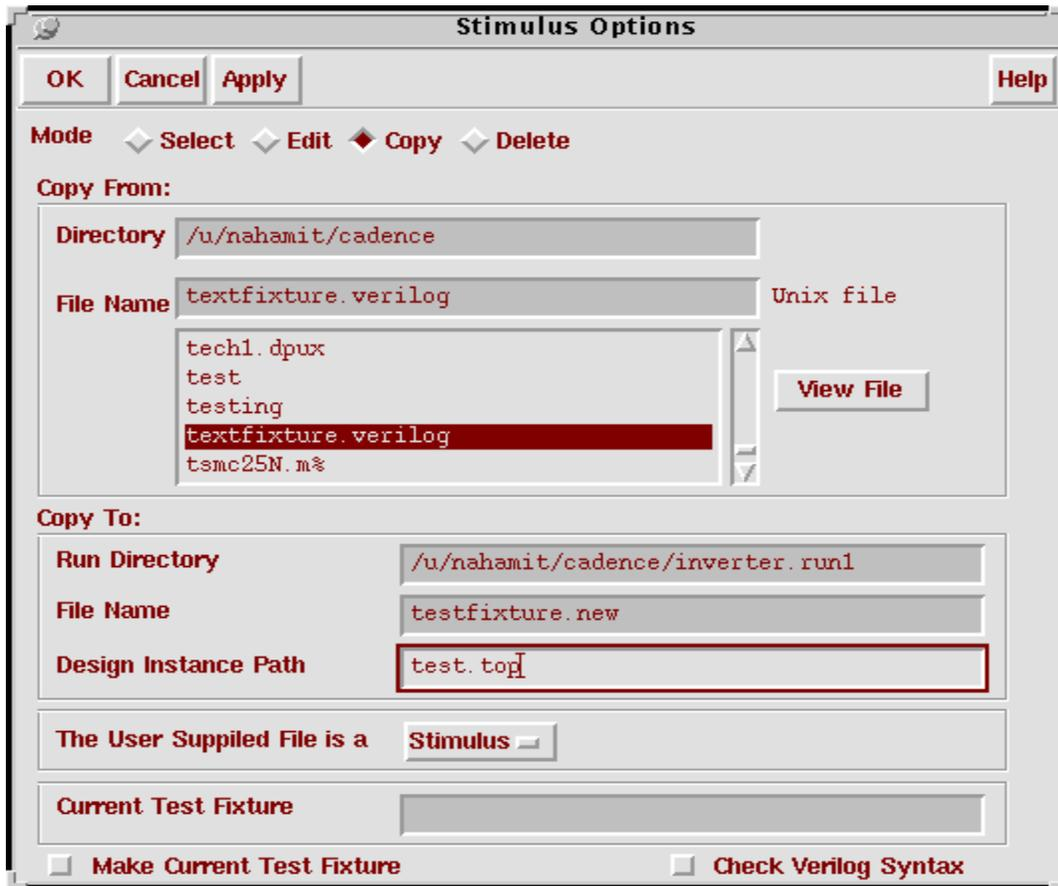

Fig 9: Simulation Options
- g. Another “Stimulus Options” form opens as shown in Fig 9.
- h. Click **OK** in Fig 9.